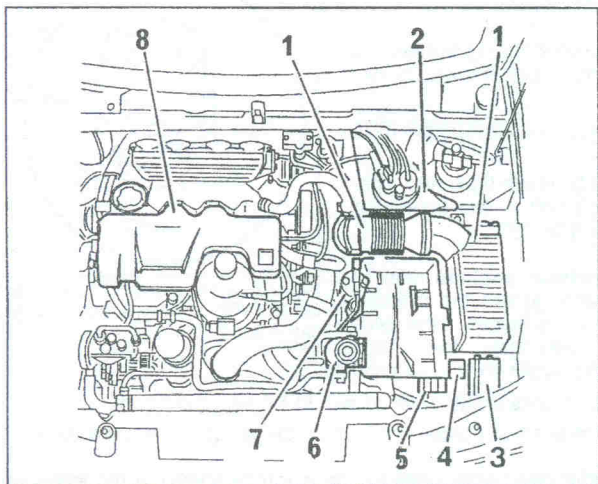
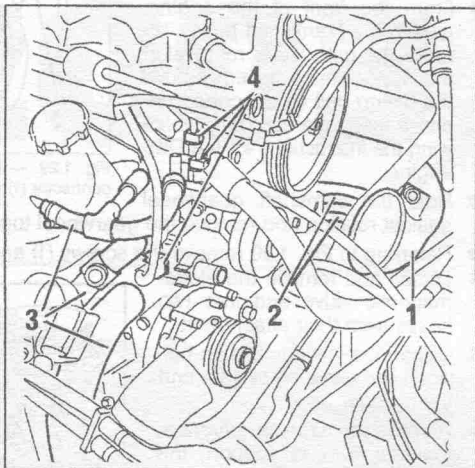

Fig. 1.26. — Details for the removal of the cylinder head. The numbers are referred to in the text.
Fig. 1.27. — Details for the removal of the cylinder head. The numbers are referred to in the text.
- For the next operations refer to Fig. 1.26 and remove in the following order: The air cleaner together with the air inlet tube (1), the LHM fluid reservoir (2) as described in the respective section. Remove the securing screws and place the following units to one side: the fuse box (3), the pre-heater control unit (5), the diesel fuel priming pump (6) and the dehydrator reservoir (7).
- Unclip the electrical harnesses from the battery tray and the fuse carrier boxes (4) from the cooling fan unit.
- Remove the battery tray and the trim cover (8).
- Referring to Fig. 1.27 remove the air intake tube (1) and disconnect the fuel inlet and return pipes (2) from the pre-heater.
- Remove the two coolant hoses (3). The hose clamps must be opened with a pair of pliers. In emergency, the special hose clamps can be replaced by screw-type Jubilee clips. Withdraw the connectors at positions (4) in Fig. 1.27.